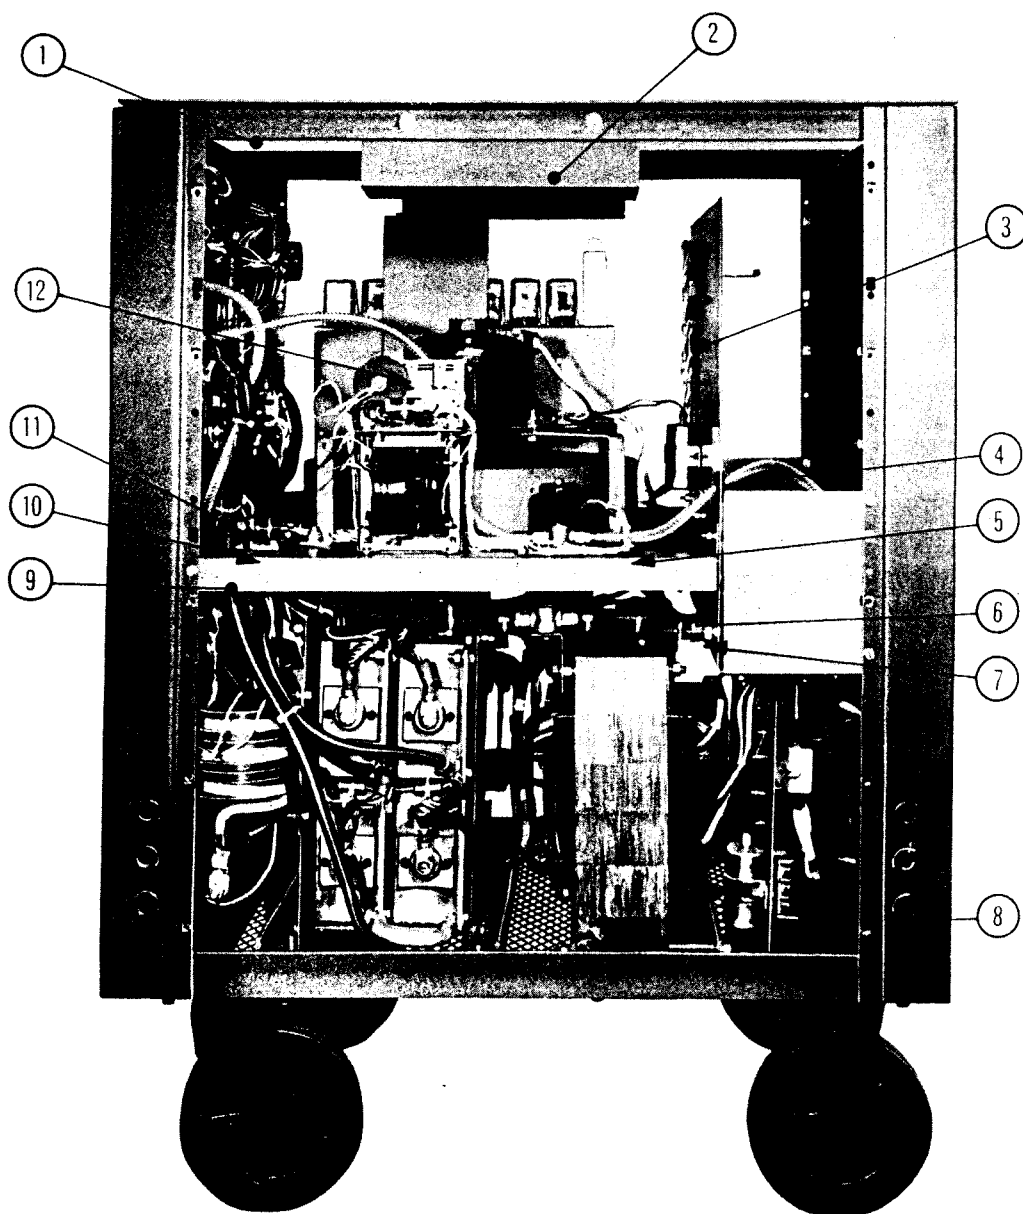

Fig. 4 Right Side
6. Check the condition of the high frequency spark gap assemblies (see Fig. 4) and clean or renew the electrodes as necessary. Check and, if necessary, reset the spark gaps. They should be set between 0.25mm and 0.35mm (0.010in and 0.014in).